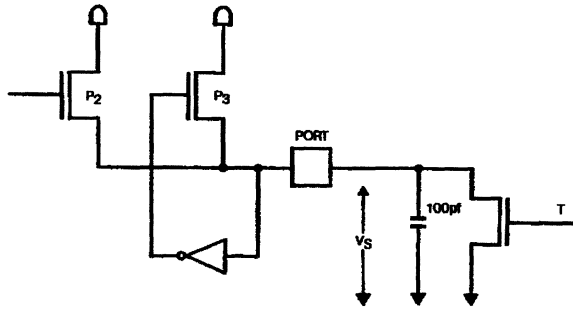

Figure 8 : A port loaded by an open drain transistor and a 100 pf capacitor.
- When PnHZ = 0 and IZC = 0, ports P1, P2 and P3 are identical to the 80C52's ports and each of them can load 3 LS TTL gates. Each Input/Output can be loaded by a collector or an open drain. However, it is important to note that transistors going from 0 to 1 are slower. The circuit in figure 8 shows an I/O of a port loaded by a 100 pf capacitor and a transistor T (open drain).